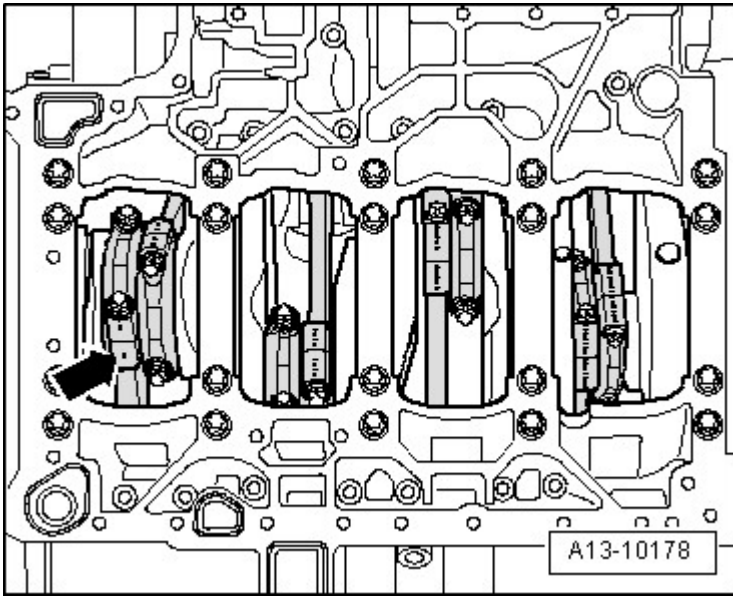

Fig. 13: Identifying Mark Connecting Rod
- Mark affiliation to cylinder with paint, refer to **Fig. 13**